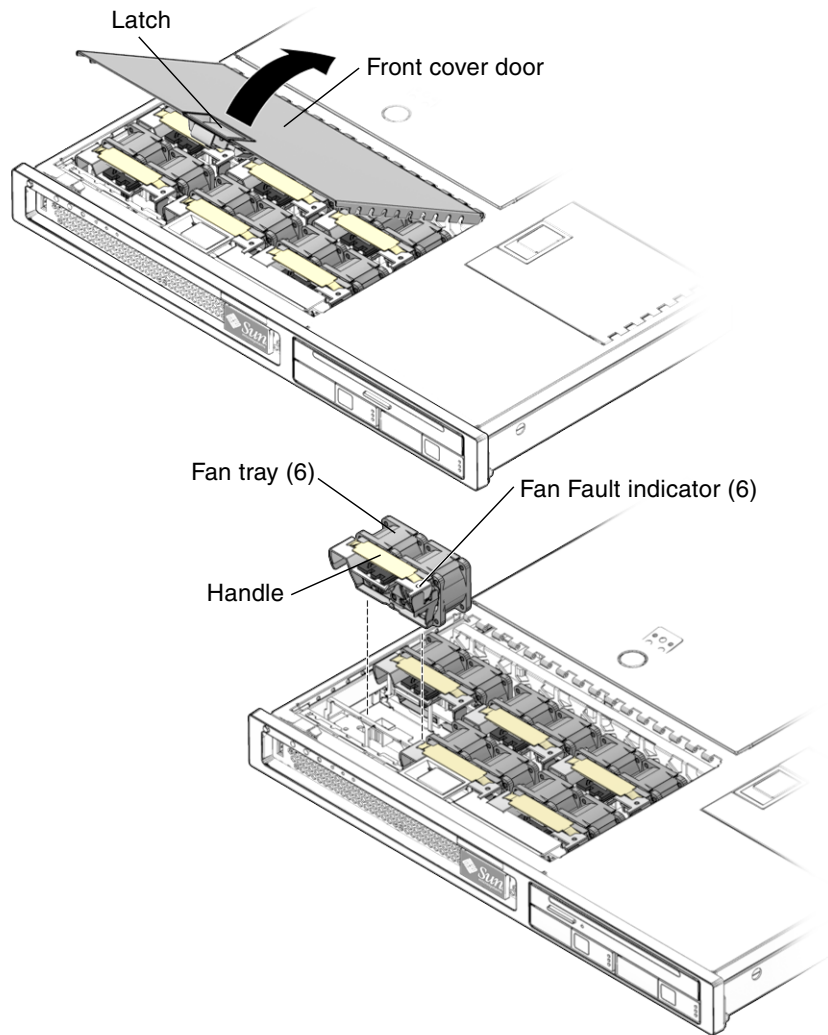
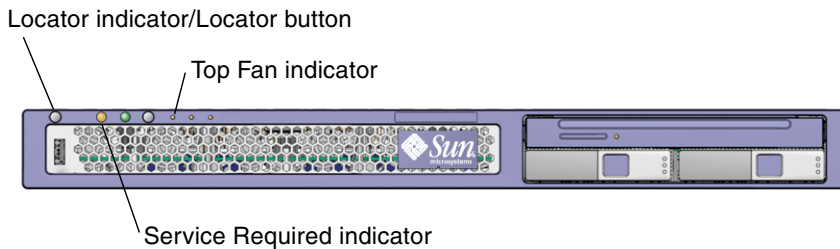
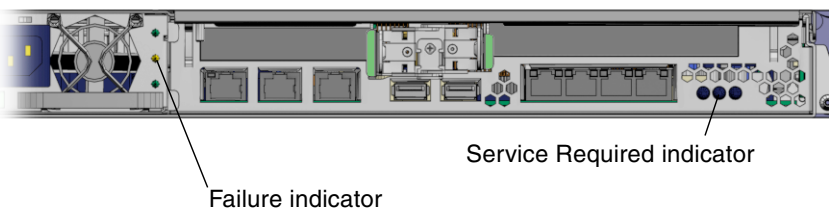

FIGURE 2-2 Removing a Fan Tray
FIGURE 2-3 Top Fan, System Required Indicator, Locator Indicators, and Locator Button
FIGURE 2-4 Failure and Service Required Indicators
- Front and rear Service Required indicators (FIGURE 2-3) and (FIGURE 2-4).
- Top Fan indicator on the front of the server (FIGURE 2-3)
- Fan Fault indicator on the faulty fan (FIGURE 2-2)
1. Gain access to the top of the server where the front cover door for the fan tray is located (FIGURE 2-2).
1. With the front cover door open, install the replacement fan tray into the server (FIGURE 2-2).
3. Verify that the Fan Fault indicator on the replaced fan tray is not lit. Also verify that the Top Fan indicator, Service Required indicators, and the Locator indicator/Locator button are not lit (FIGURE 2-2), (FIGURE 2-3) and (FIGURE 2-4).
- Front and rear Service Required indicators (FIGURE 2-3) or (FIGURE 2-4).
- Rear PS Failure indicator on the bezel of the server (FIGURE 2-4)
5. Verify that the Failure indicator on the replaced power supply (FIGURE 2-4), the Service Required (FIGURE 2-3) indicator, and the front and rear Service Required indicators are not lit (FIGURE 2-3) and (FIGURE 2-4).